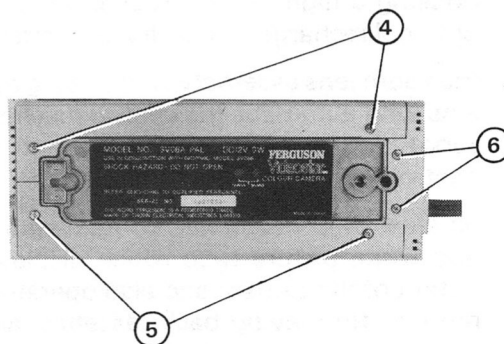

Fig 3.6 Camera Body
- (3) Remove the two screws ③, revealed when the shoe spring is removed, and the six screws ④, ⑤ and ⑥ from the base of the body as shown in Figure 3.6